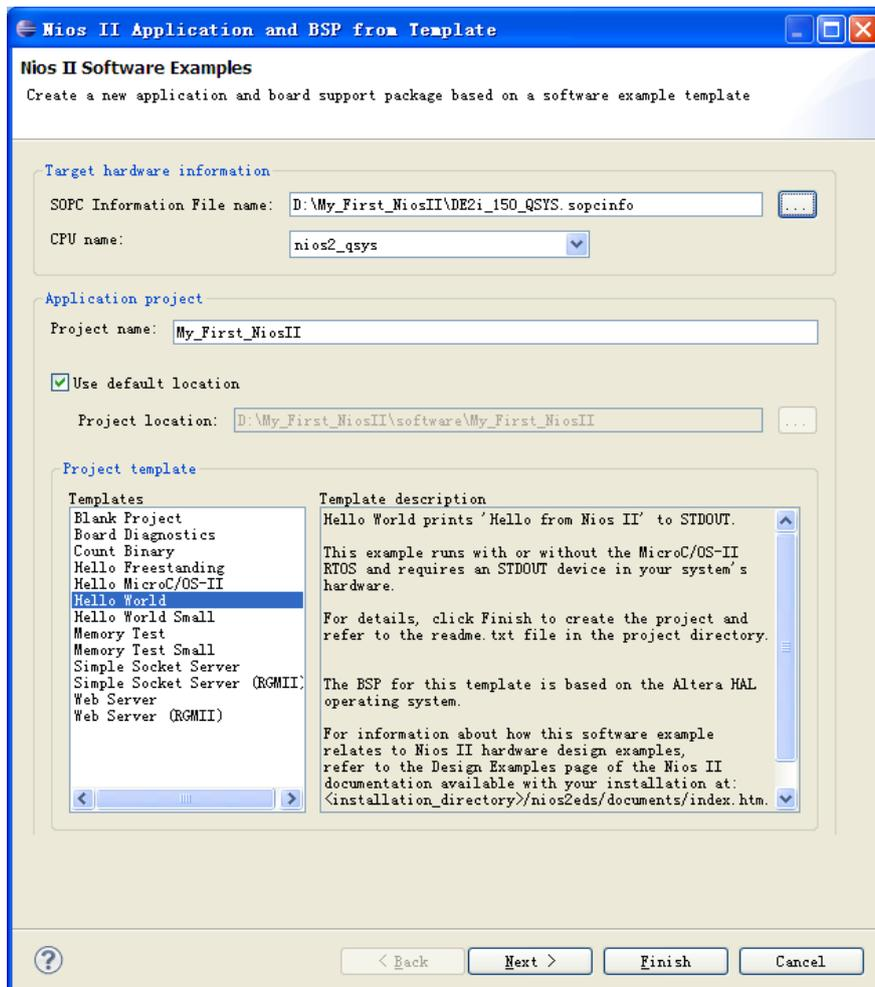

Figure 2-3 Nios II-Eclipse New Project Wizard
- Under **Target hardware information**, next to **SOPC Information File name**, browse to locate the <design files directory> where the previously created hardware project resides as shown in Figure 2-3.